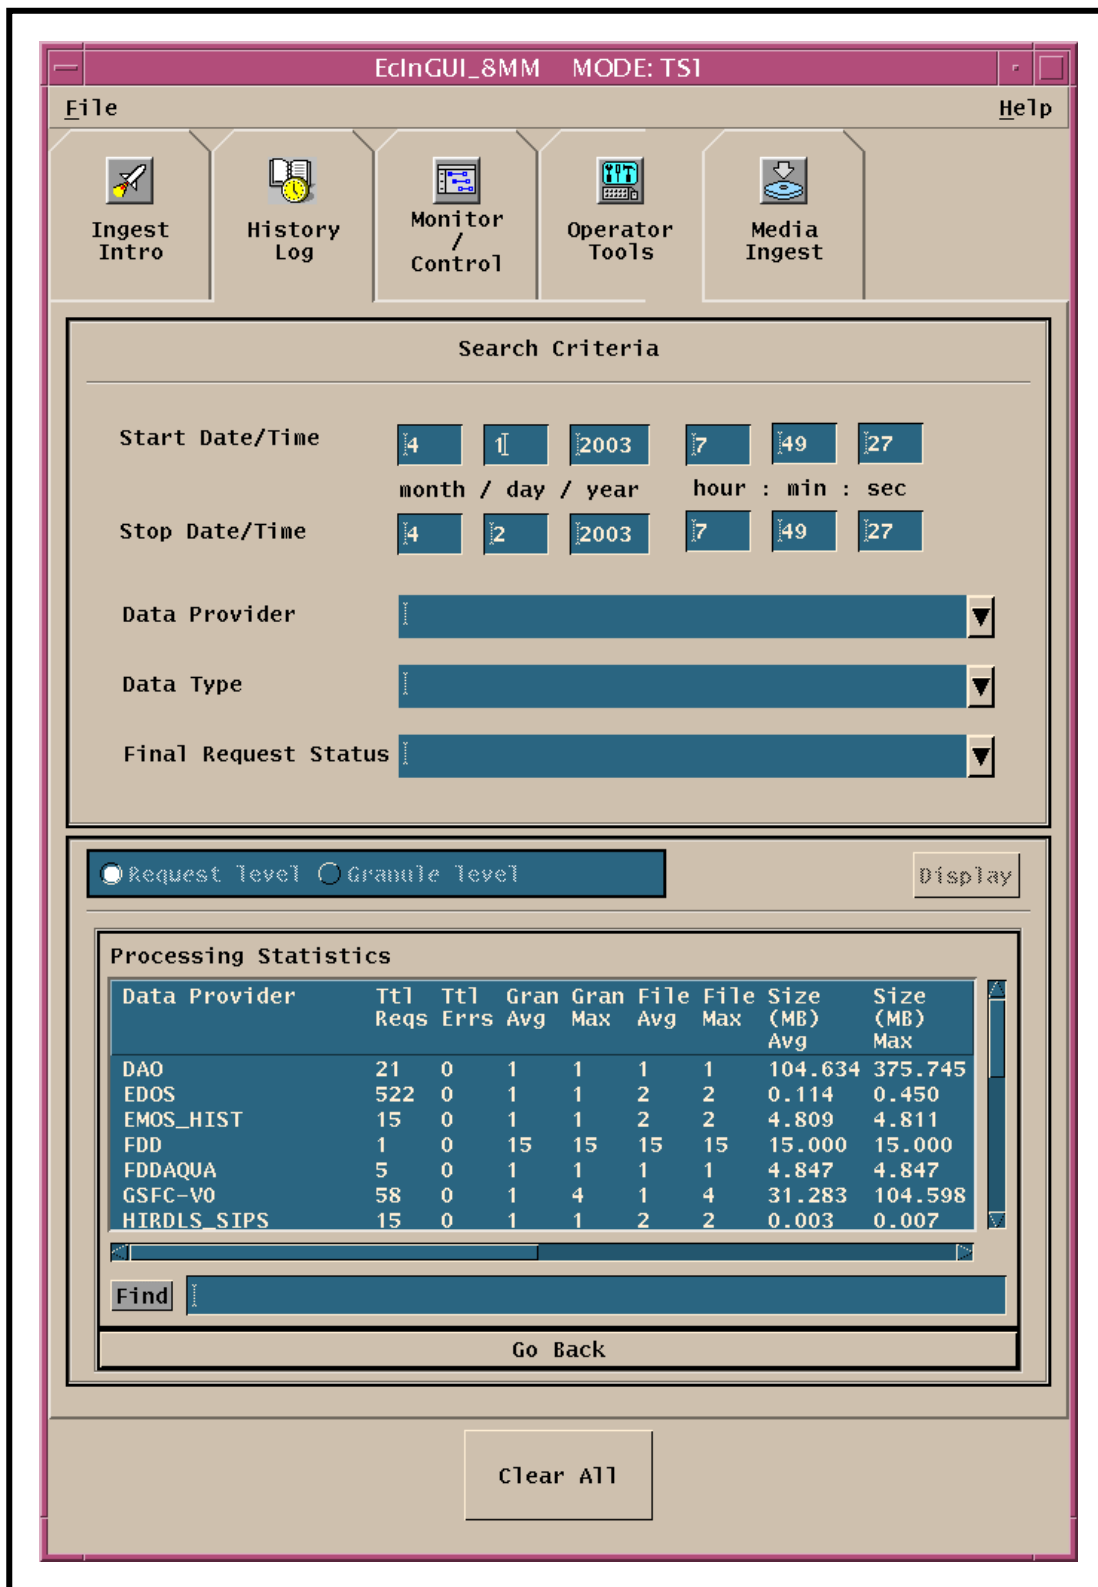

Figure 18. Request Level Summary Report (ECS Ingest GUI History Log)
- The **Request level** Summary Report (Figure 18) provides Ingest request processing statistics.
- **Size (MB) Avg** [average request size in Megabytes].
- **Size (MB) Max** [maximum request size in Megabytes].